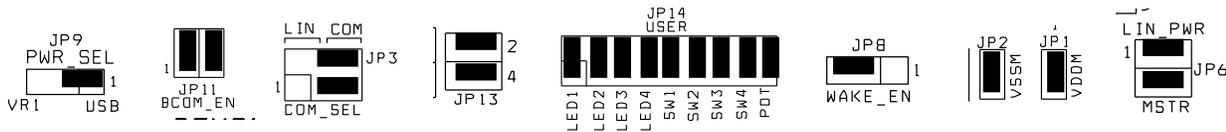

Figure 1: DEMO9S12HY64 Default Option Settings
1. Verify the option jumpers are set in default positions. Refer to Figure 1 above.
- Ensure the option jumpers are set to default positions. Refer to Figure 1 above. Specifically, ensure the PWR\_SEL option jumper is set correctly.
- If keystrokes are not echoed in the terminal window, ensure the terminal program is correctly configured. Also, ensure the COM\_SEL jumpers are set properly, refer to Figure 1 above.